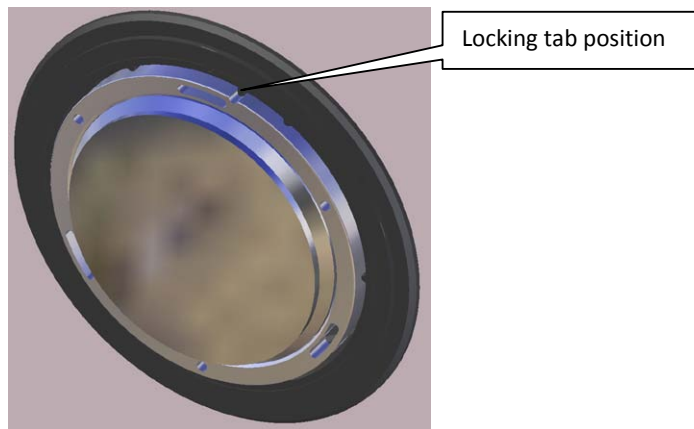

Fig. 19
16. Turning the light coil remaining cable and put it inside the niche. Lock the lamp in position on the tab (1pm o'clock) and push into the niche (Fig. 19).